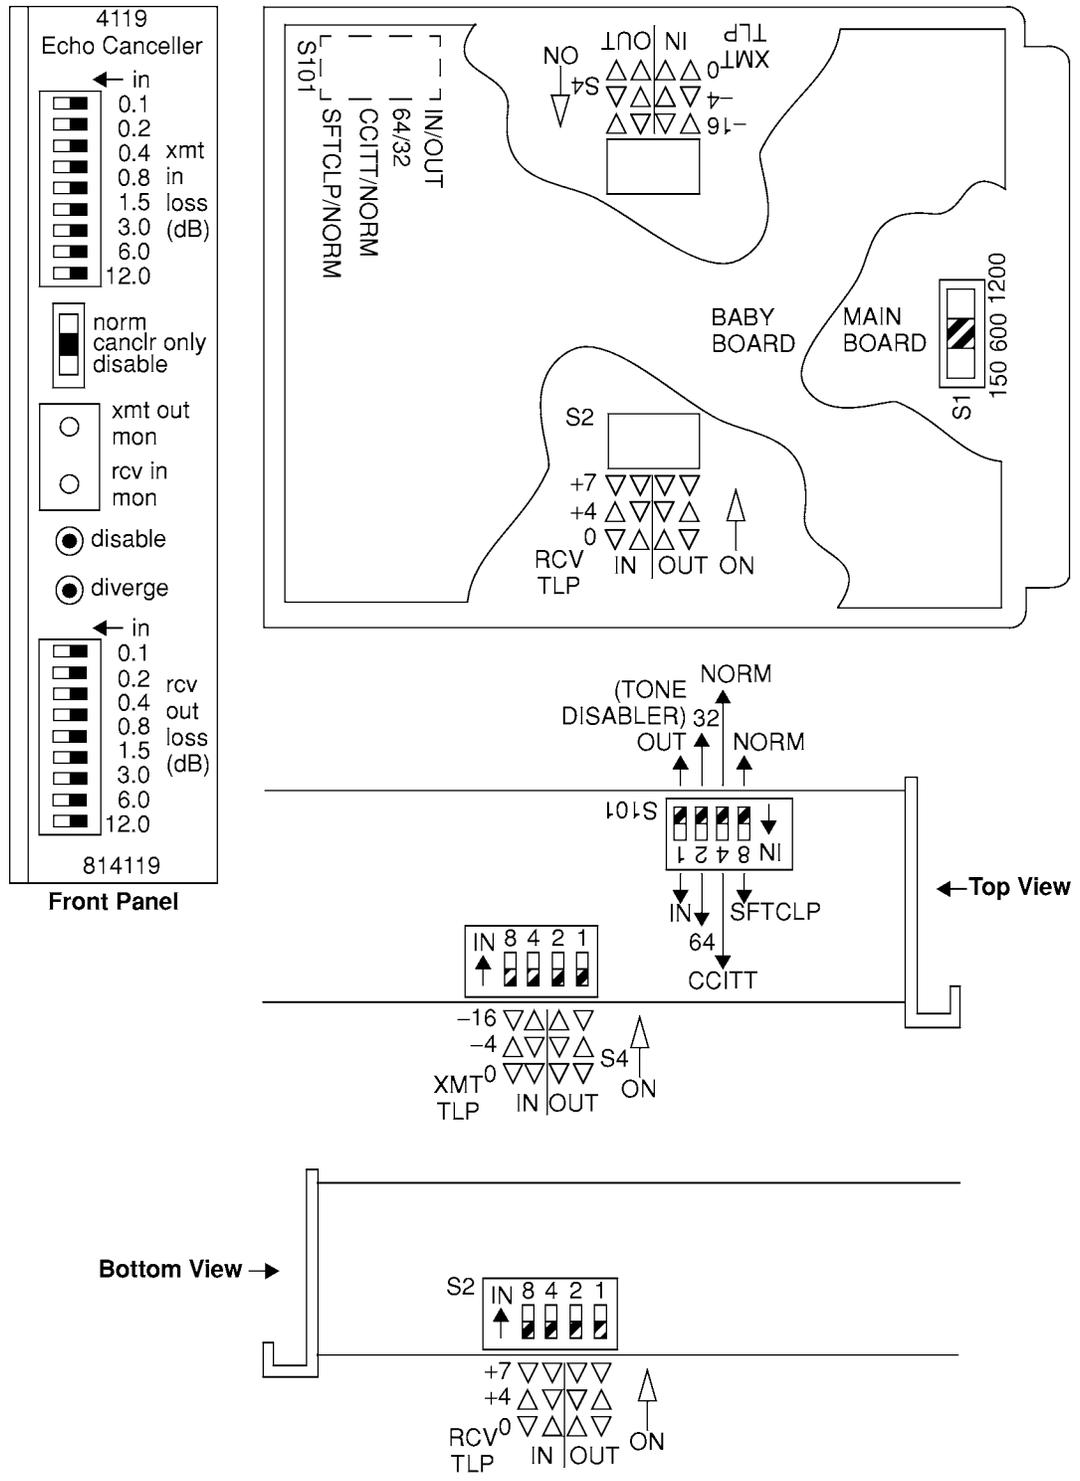

Figure 3-1 Option and Alignment Switch Locations
- 3.5 Five option switches must be set before the 4119/S is placed into service. Two are 3-position slide switches; the others are 4-position DIP switches. One slide switch is on the front panel. The other, along with two of the DIP switches, is on the main printed circuit board. The third DIP switch is on the large "baby" board. Locations of these switches are shown in Figure 3-1. The first 10 entries in Table 3-2 summarize all switch options and provide a convenient checklist that can be filled out either prior to installation for prescription optioning or during installation to serve as a record for future reference. Refer to Figure 3-1 and Table 3-2, and set each option switch on the 4119/S as required.